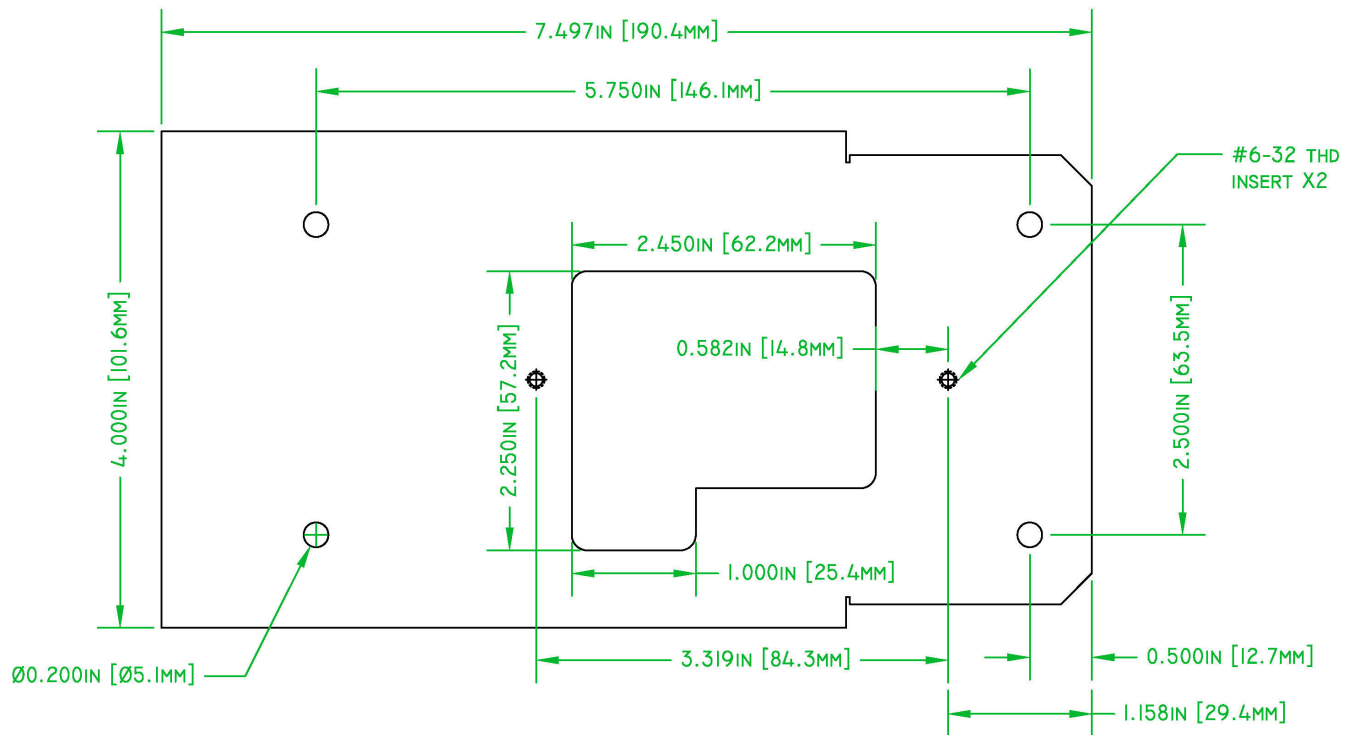

Figure 5 Illuminated Spy Proof Housing Mounting Points
- 5.2.1.2. Outline a cable clearance hole, as shown in figure 5 above, & cut a large enough hole to clear cable connectors & splices to the control panel.